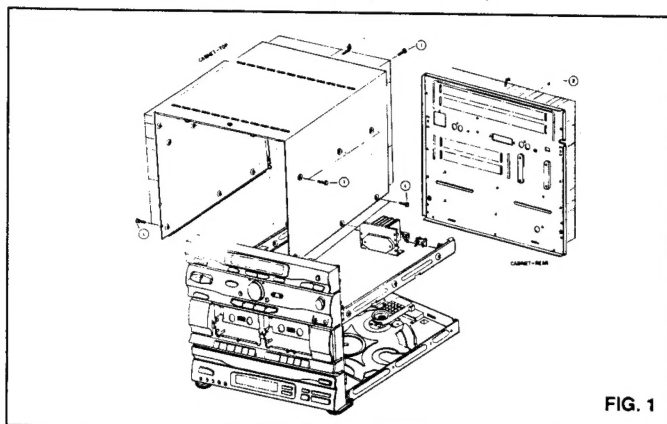

FIG. 1
1. TOP CABINET & REAR CABINET - FIG.1 -